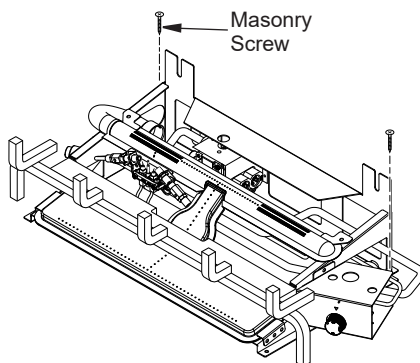

Figure 12 - Attaching Heater Base to Fireplace Floor
2. Mark screw locations through holes in mounting brackets (see Figure 12). If installing in a brick-bottom fireplace, mark screw locations in mortar joint of bricks.
5. Apply pipe joint sealant lightly to fitting threads. Connect approved flexible gas hose to gas regulator of heater (see Figure 12). *Note: Never apply pipe sealant to flare fitting threads. Hold gas regulator with a wrench when connecting flexible gas hose.*
6. Attach base assembly to fireplace floor using two masonry screws provided in hardware package (see Figure 12).